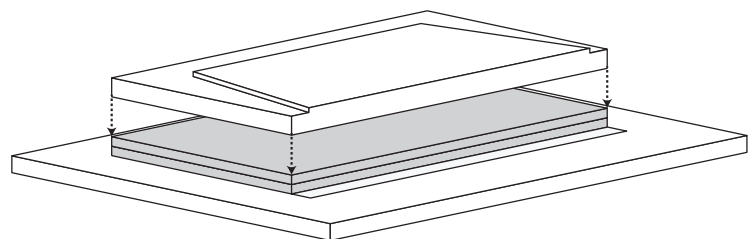

FIGURE 16.5
STEP 5 (FIGURE 16.5): Place the base plate on top of the two boards (3" riser).